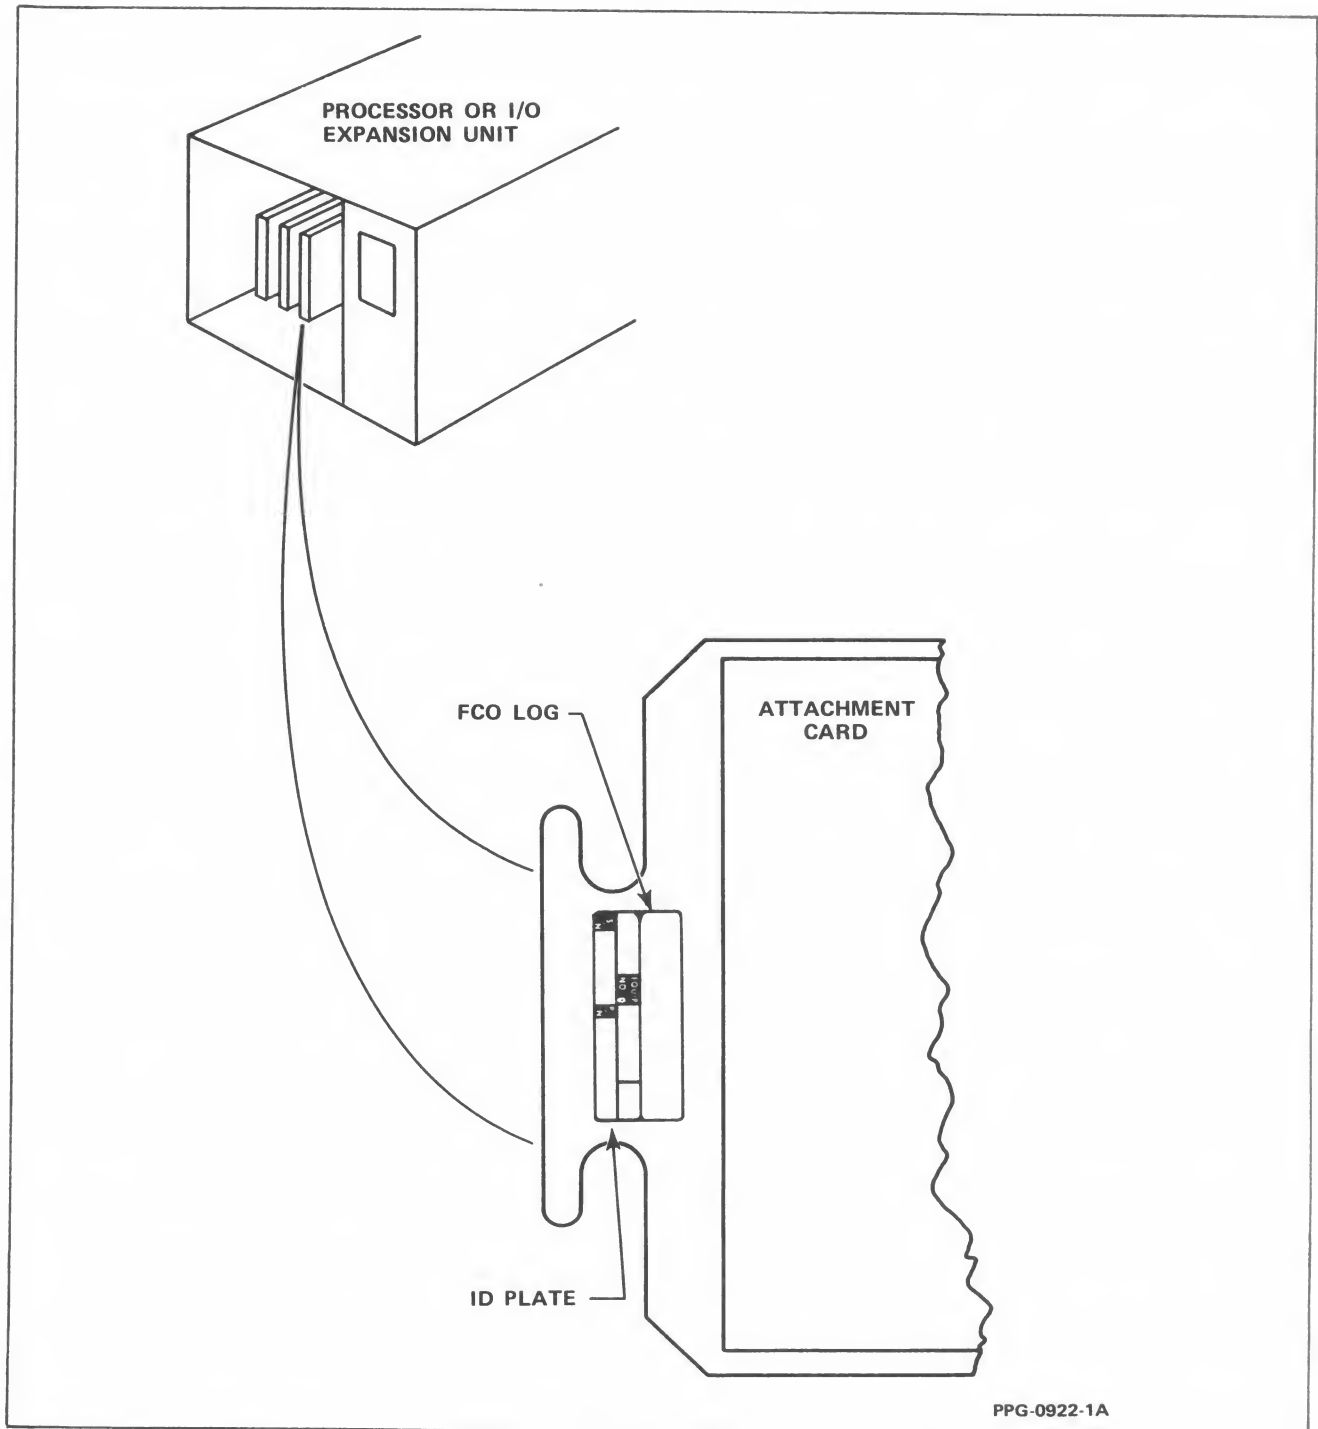

Figure 3-5. Equipment ID Plate and FCO Log Placement
16. Attach the equipment identification plate and FCO log for the tape storage subsystem as shown in figure 3-5.